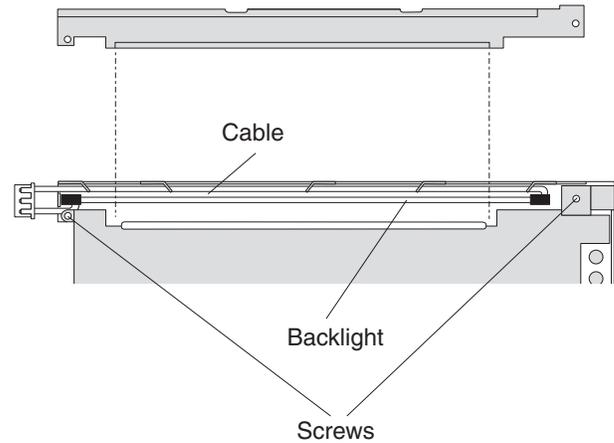

Figure 3-18. Reinstalling the Backlight Cover
- Make sure the cable is routed underneath the tabs, as shown in Figure 3-18.
- Make sure the backlight cover is first slide under the LCD rear cover shield, as shown in Figure 3-18, before installing the two screws.